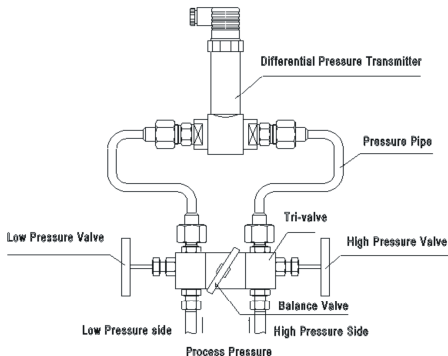

Fig. 4
- The recommended method is to see Fig. 4.